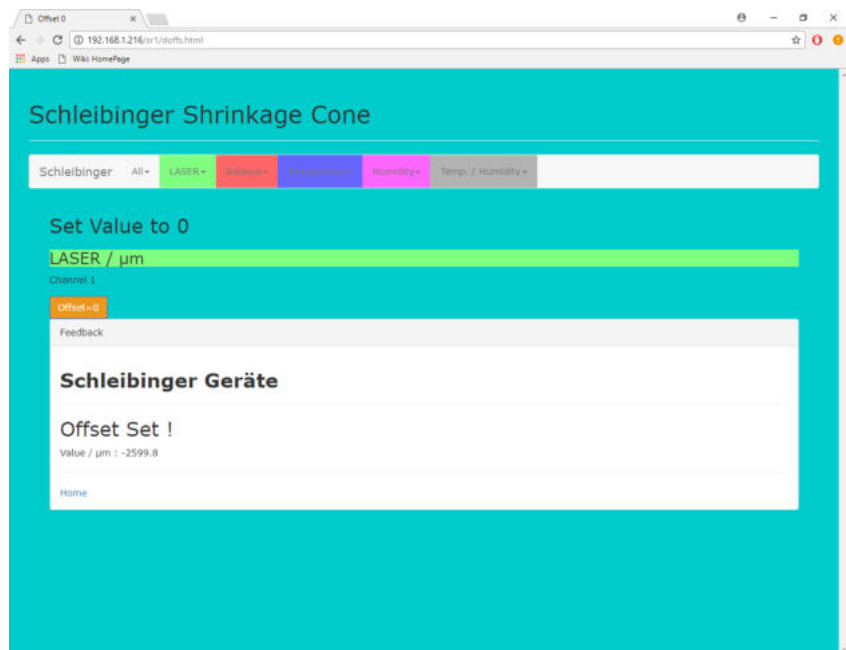

Figure 20: Offset zero
- Select **Offset** and press the button **Offset=0**. The measured values are set to zero (Fig. 20).